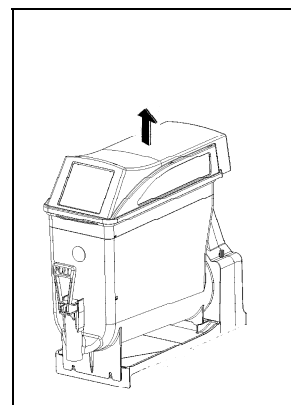

Fig. 17
- Retirer le couvercle principal (fig.17).